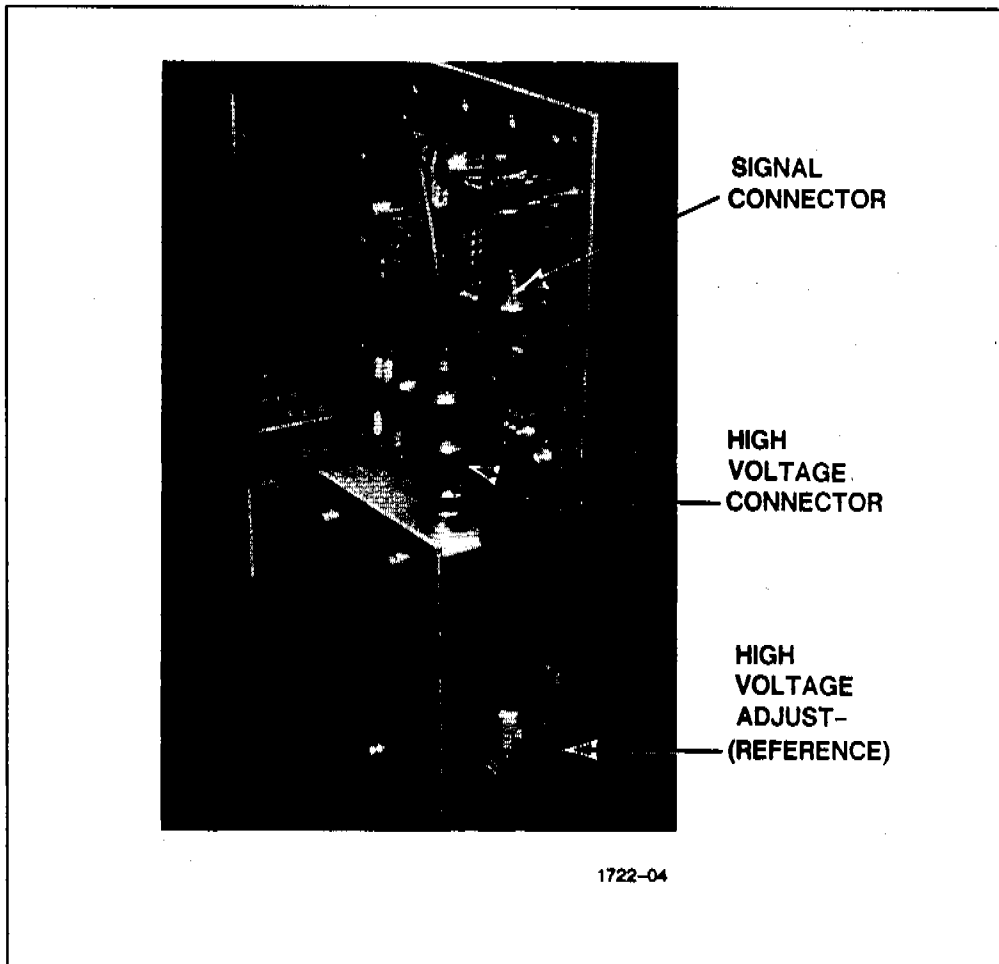

Figure 15
15. Install the detector board (in the "B" detector slot) part way and connect the FPD power and signal cables as shown in figure 15. Push the board in all-the-way.